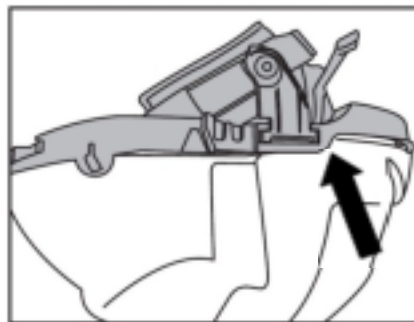
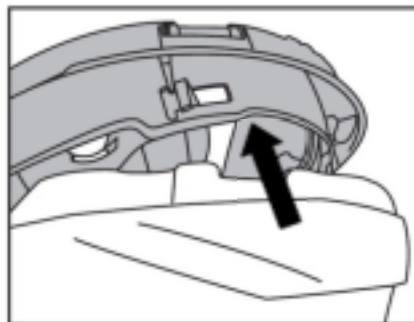

Fig. 3a
Fig. 3b
- (3) Separate the impact liner from the suspension ring (see Fig. 3a and Fig. 3b), starting from the rear attachment area.